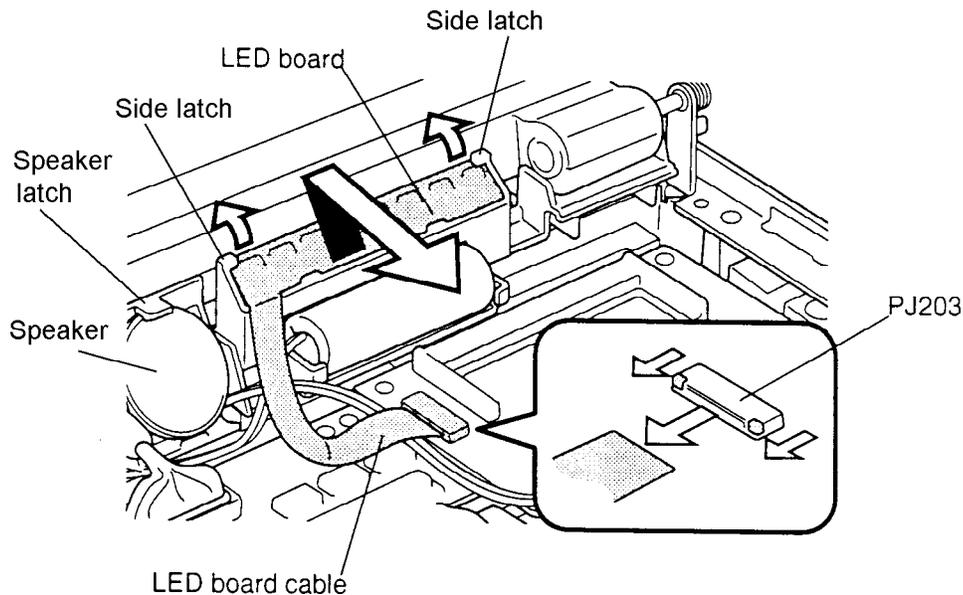

Figure 4-24 Removing the LED board
5. Disconnect the LED board cable from PJ203 on the memory board (figure 4-24).
- Connect the LED board cable to PJ203 on the memory board (figure 4-24).